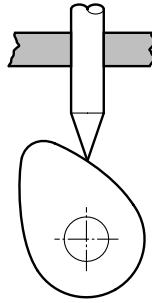

Fig. 8
- (ii) Cams are used to convert motion from one type to another. Fig. 8 shows a pear-shaped cam. Add labels to Fig. 8 to show how the cam converts rotary to reciprocating motion. Clearly label the follower.